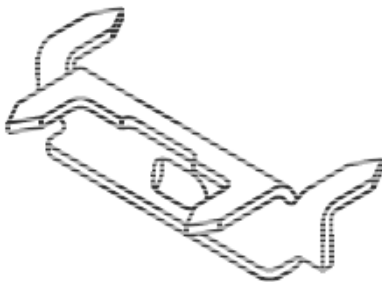

FIGURE 4 – TIGERCLAW TC-3S FASTENER
5.4 Solid deck boards may be fastened using TigerClaw TC-3S hidden fasteners. Two fasteners are required at each support. The outer edge of the first and last deck boards shall be fastened to each joist with one 2.5 inch long FastenMaster Trim Top™ Stainless Steel Coated Trim Screw. See Figure 4.